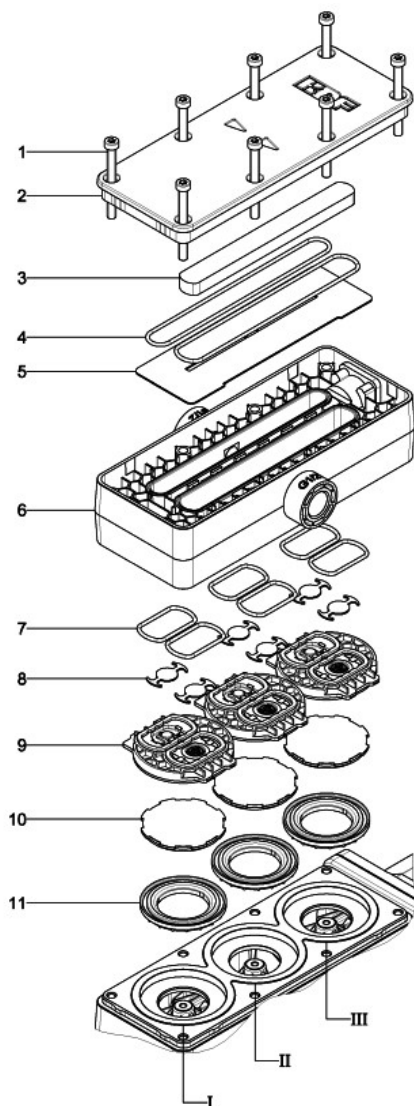
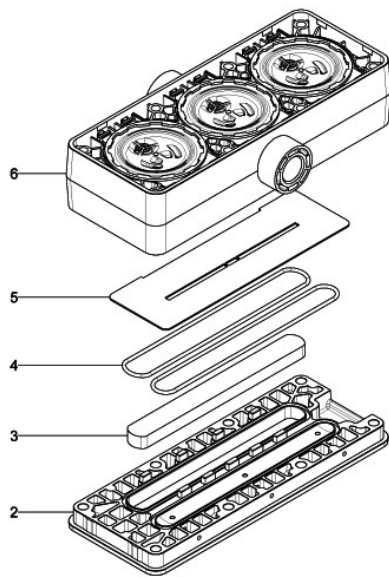
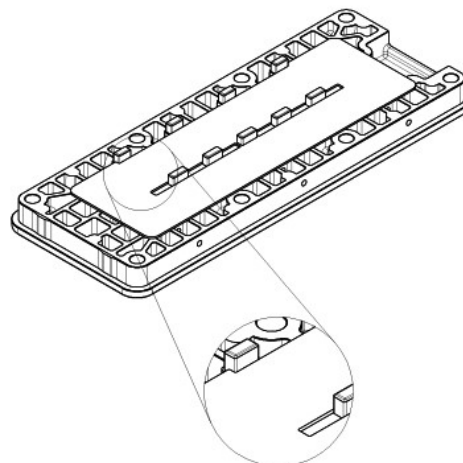

Figure 2: Head parts
Figure 4: Head installation
Figure 6: Installing the resonating diaphragm
1. Insert the three insert rings (11) in the pump housing; see Figure 2.
2. For easier installation of the diaphragms (10), turn the connecting rod to top dead center, beginning with head I. Tighten the diaphragms well (10) by hand. Repeat the steps for heads II and III.
3. For head II, press the middle diaphragm (10) to bottom dead center with your thumb.
4. Place the head plate (2) according to Figure 4.
5. Insert the Cellasto (3) and the two O-rings (4) into the head plate (2).
6. Place the resonating diaphragm (5) on the head plate (2) according to Figure 6. Make sure that the cut-out in the resonating diaphragm (5) and the cams in the head plate (2) are positioned correctly.